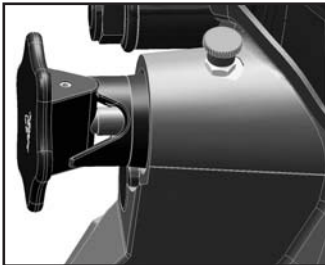

Fig. 1
5. Fit tension washer (40) without any other components of the towing device to the bar guide (1) and fully tighten the castle nut (42) by hand. Measure the dimension X (see figures 1 – 4). Remove castle nut (42) and tension washer (40) again.
6. Fit the coupling head assembly including the front rubber spring (36) and thrust washer (37) to the bar guide (38). If required, regrease drawbar (1) and contact surfaces of thrust washer (37) and bar guide (38).
The coupling can only be opened when the coupling jaw is in the central position or in the lateral end positions. To release the trailer coupling the securing knob is pulled out and turned ahead until it has reached its external engaged position. The trailer coupling now is released (Fig. 1). To open the coupling the hand lever is moved to its upper end position and then released. This will cause the coupling bolt to lift up and the towing eye may be extended. Due to the extension of the towing eye the coupling mechanism is again released and thus the coupling repeatedly closed and secured.
1. Remove protecting cap (44) (fig. 1).
1. Grease bearing surface of the thrust washer (37) on the bar guide (38).
2. Fit tension washer (40) without any other components of the towing device to the bar guide (1) and fully tighten the castellated nut (42) by hand. Measure the dimension X (see figures 1 – 4). Remove castellated nut (42) and tension washer (40) again.
7. Slip on protecting cap (44) (fig. 1).